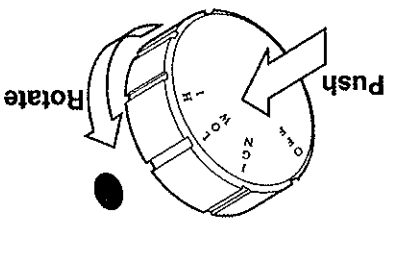

Figure 26: LOW/HIGH Position
10. Push in control knob and turn to desired setting (LOW or HIGH). The control knob must be set at either the low or high position, and the control knob will pop out when positioned correctly. Do not set the control knob at a position between LOW and HIGH. Refer to *Figure 26*.